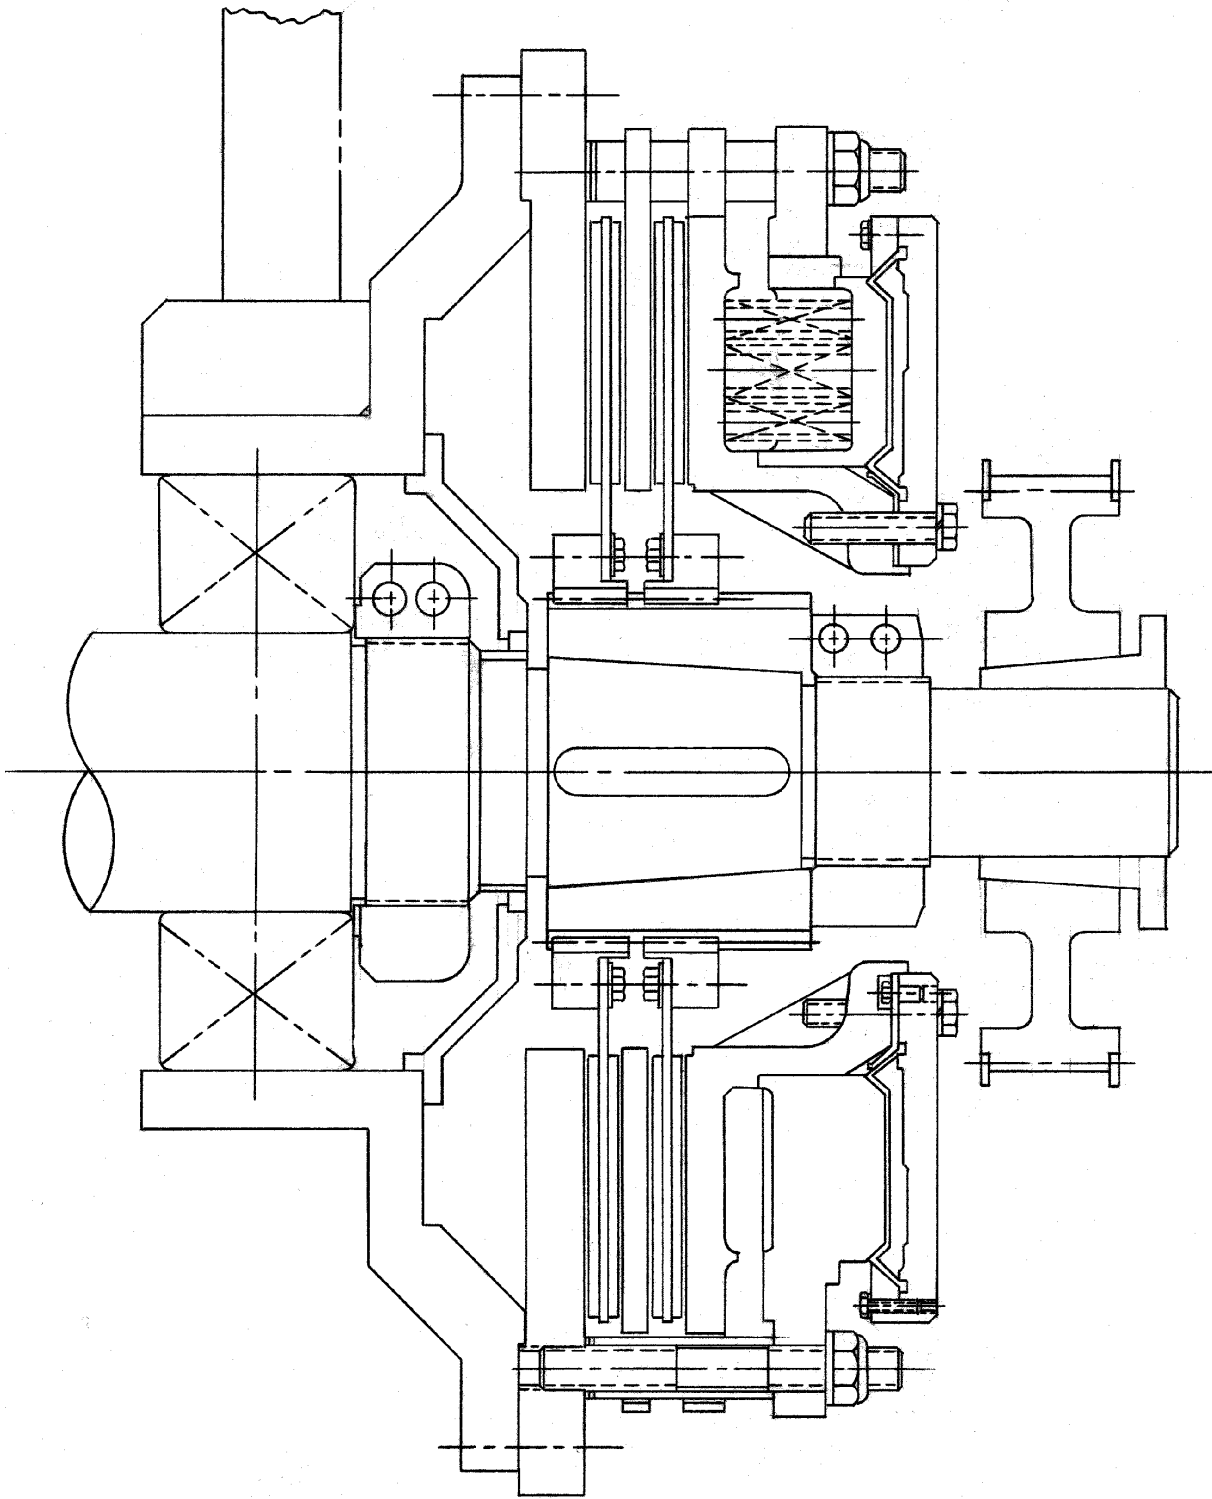

Figure 3
- 2.3.3 Slide the gear onto the crankshaft and install and tighten the reworked locknut (61). Check that the gear has pulled completely onto the taper. See **Figure 3** for reference dimensions. Tighten the locknut cap screws.